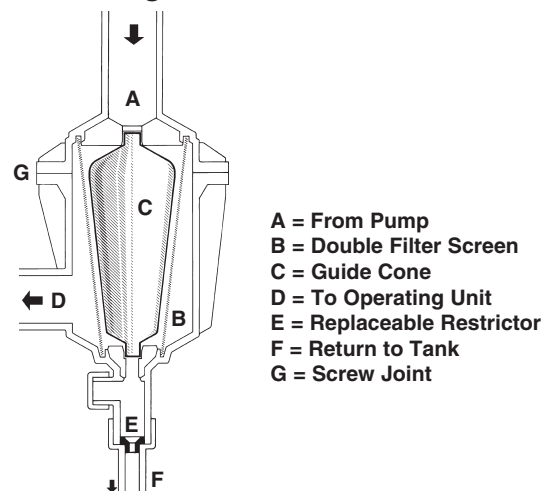

Fig 15
**IMPORTANT!** Note direction of restrictor in Fig 15.